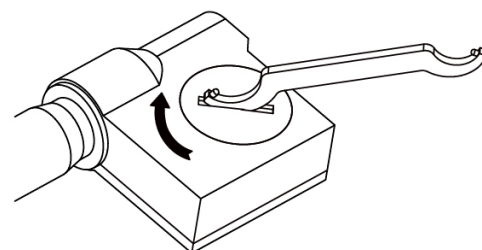

fig. 3
- » Replace the battery cover and turn it clockwise to secure (see fig. 3).